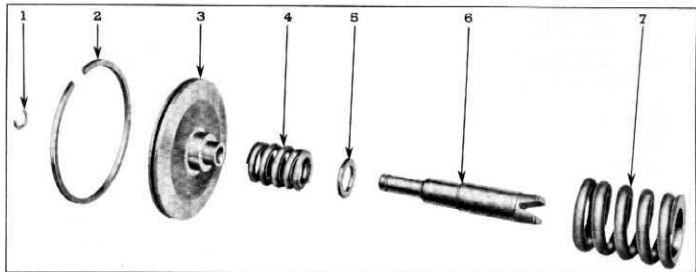

Fig. 197—Layout of Low Servo Piston
4. Figure 197 shows layout of low servo piston assembly.